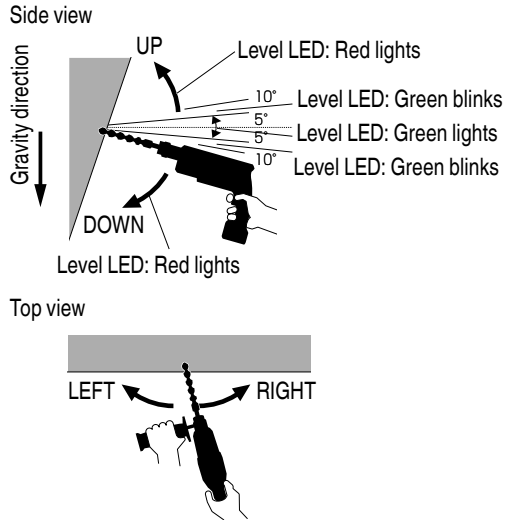

Fig. 32
2. The level LED on the tool side lights up or blinks in the color shown below when the level LED switch is pressed. (Fig. 32)
- The LED level function detects tilt for surfaces (such as walls) that are perpendicular with respect to gravity (Fig. 32 UP, DOWN), but it cannot detect horizontal tilting with respect to the surfaces (Fig. 32 RIGHT, LEFT).